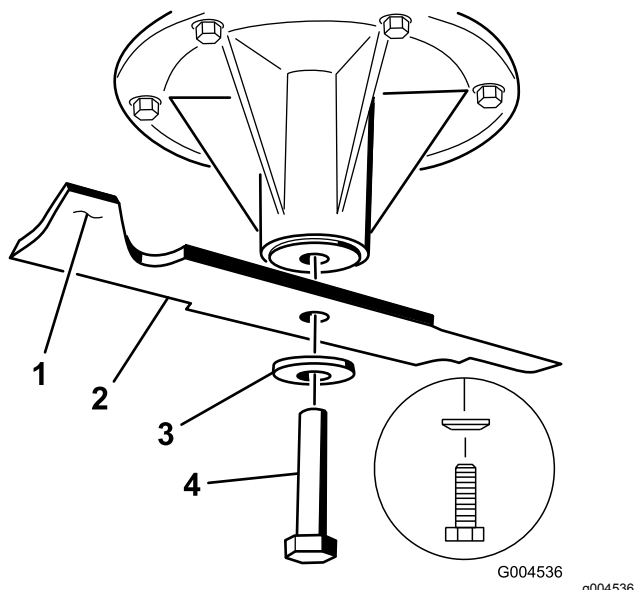

Figure 103
1. Install the blade onto the spindle shaft (Figure 103).
2. Install the spring disk and blade bolt (Figure 103).
Note: The spring-disk cone must be installed toward the bolt head (Figure 103).